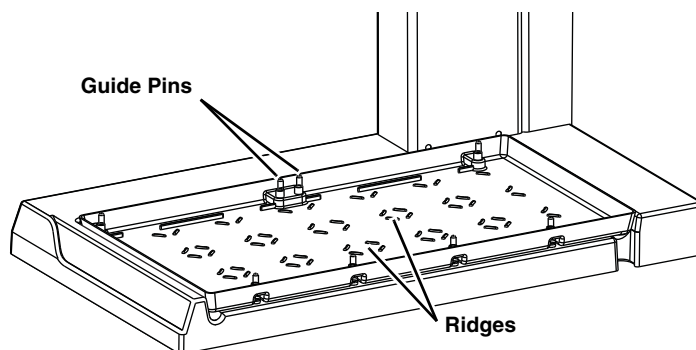

Figure 2-12 Rack guide pins and bottle location ridges
4. Align the holes on the left side of the rack with the corresponding guide pins (Figure 2-12) in the drip tray and gently press downward. When correctly installed, both sides of the rack will sit on the ridges in the drip tray. The test tube numbers on the rack will appear upright when viewed from the front of the fraction collector.